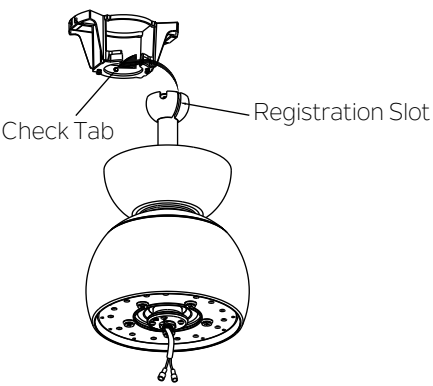

Fig. 9
Step 5. Now lift the motor body into position and place the hanger ball into the hanger bracket. Rotate until the "Check Tab" has dropped into the "Registration Slot " and seats firmly. (Fig. 9) The entire motor body should not rotate is this is done correctly.